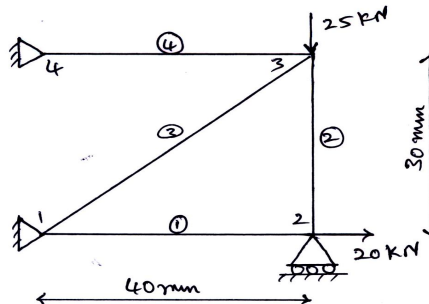

Fig.Q4(b)
- b. A 4 bar truss element is shown in Fig.Q4(b). Determine the following: